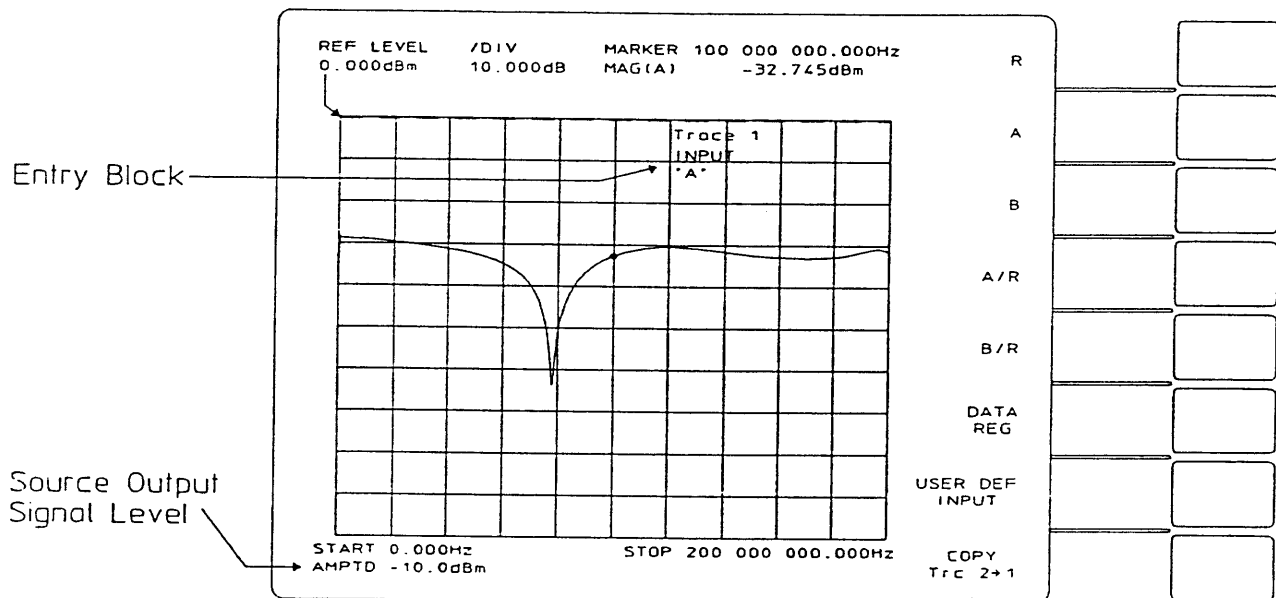

Figure 2-2. Log Magnitude of Input A
- A** Softkey used to select receiver input A as the **INPUT** definition for the active trace. Note that the LED above the **TRACE 1** hardkey is illuminated, indicating that trace one is active. The screen should now appear as shown in figure 2-2